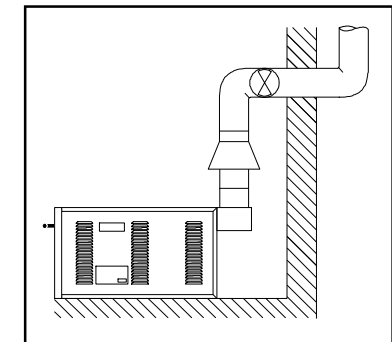

FIG.12 (ÉVACUATION FORCÉE DIRECTE)
- 2) ÉVACUATION FORCÉE DIRECTE (FIG.12)